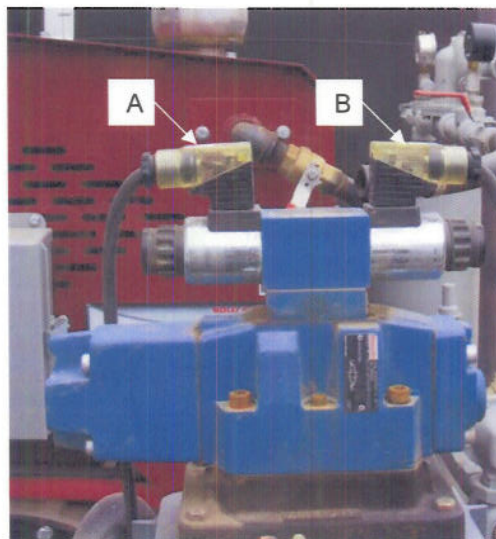

Figure 9
8. Connect the cables from the control valve on the skid (Figure 9) to the Solenoid A & B ports on the control box.